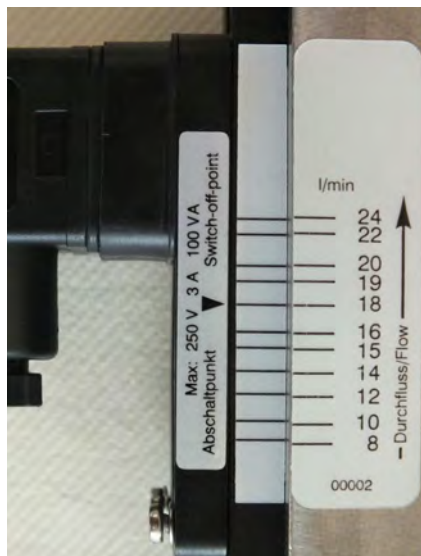

Fig. 35: Reading-off the switch point (example)
1. ➤ Make sure that the setting arrow, the scale mark on the additional label on the guide rail and the scale mark of the switch point adjustment scale are in alignment. (Fig. 35)